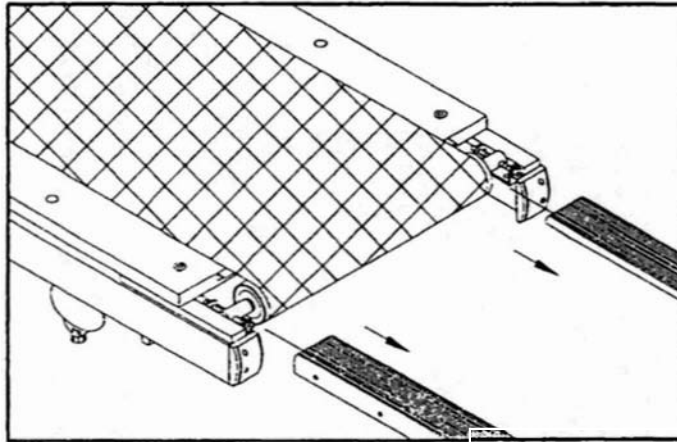

Fig.2
2. Slide the staging platform off from the end of the treadmill.(see Fig.2)